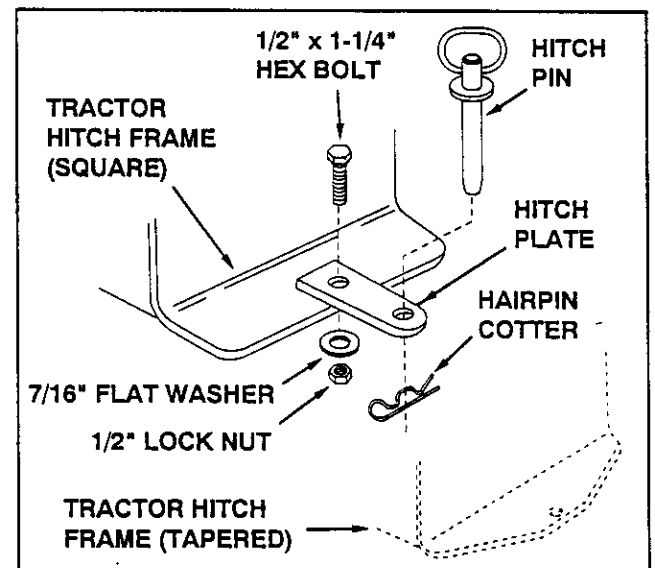

FIGURE 27
- A hitch plate is furnished for tractors having square (straight) hitch frames, as shown in figure 27, to prevent binding of Mow-N-Vac hitch in tight turns. It is assembled with a 1/2" x 1-1/4" hex bolt, a 7/16" flat washer and a 1/2" lock nut. Tapered hitch frames, shown at the bottom of figure 27, do not require the added hitch plate.